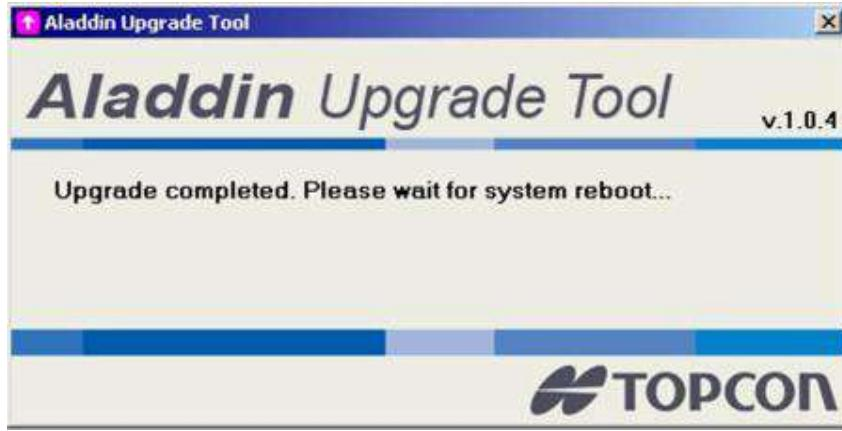

Figure 99
- After the upgrade you will see the message of Figure 99 on the screen.